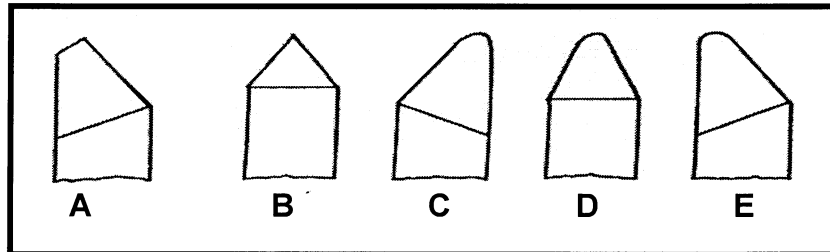

Figure 1
4.1 Figure 1 shows the profiles of different lathe tools.